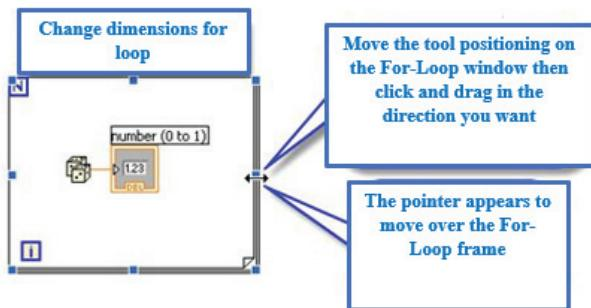

Figure 2.112: Change Dimension For-Loop
- **For Loop dimensions** can be changed by using the Positioning tool by moving them on the Loop frame to make the pointer an arrow shape so we press the pointer and drag the frame in the direction we want, as shown in figure 2.112.